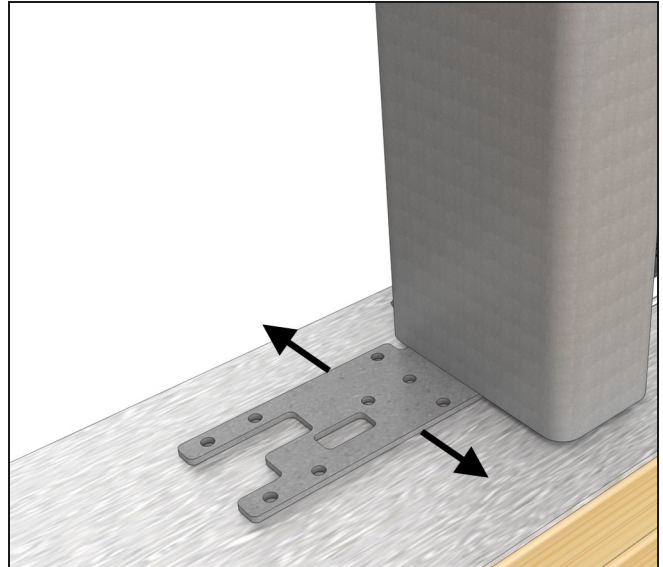
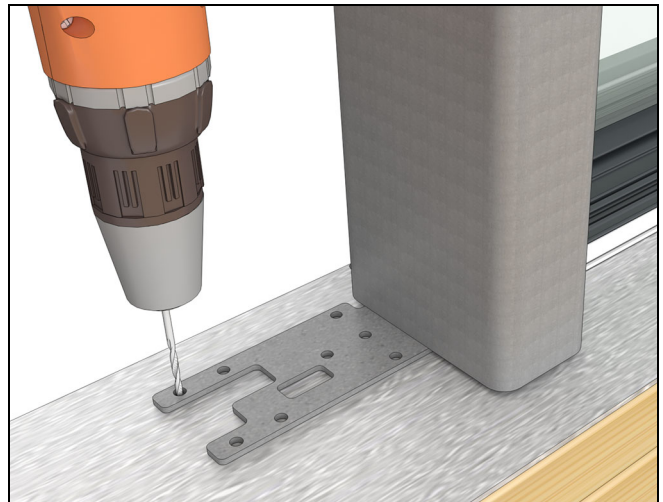
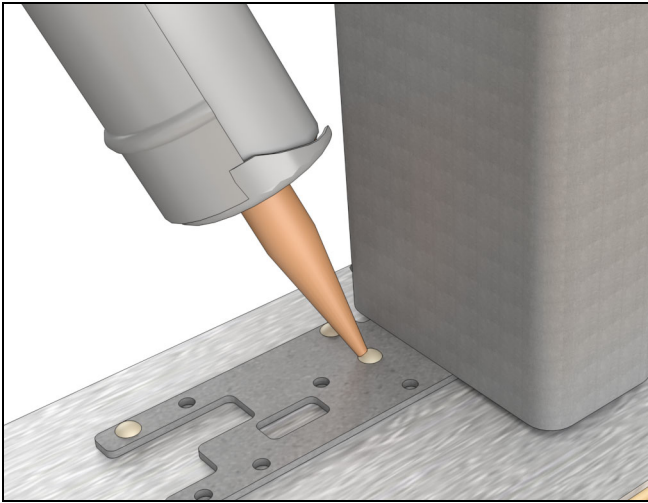
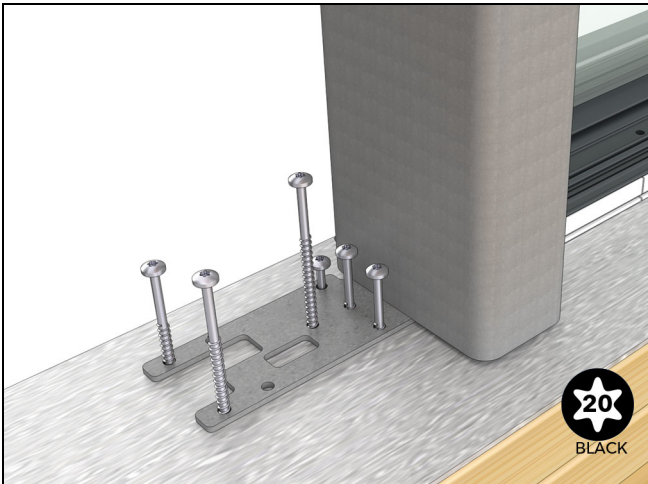

Figure 122
Figure 123
Figure 124
Figure 125
13. Adjust the bracket so it is square in the opening and positioned about 1/4" from the exterior step in the frame, then fasten it to the sill. Use seven #10-12 3" T20 Torx pan head 2/3 thread screws or similar depending on the sill material. See Figure 122, Figure 123, Figure 124, Figure 125, and Figure 126.